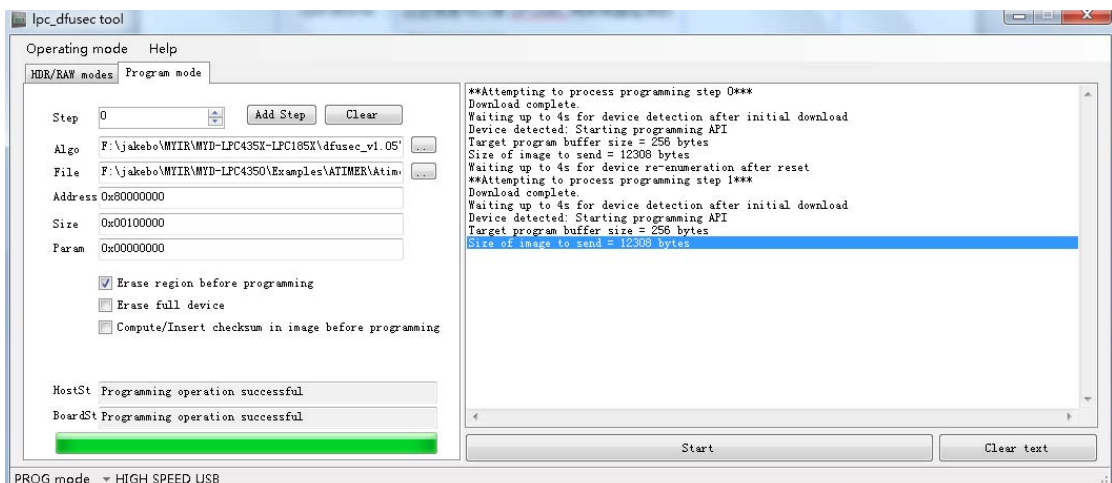

Figure 2-8
(4) Click the "Start" button to start program, when finished, result is shown in figure 2-8.